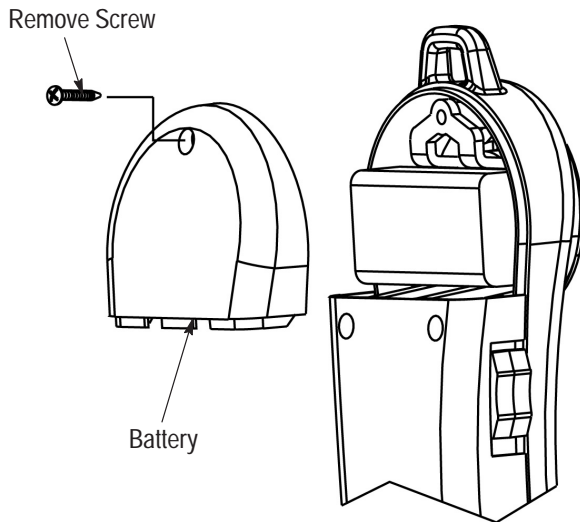

Figure 2
7.1. Battery Replacement (Figure 2)